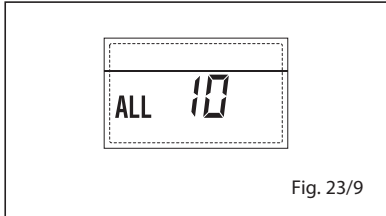

Fig. 23/9
- ACTIVATION OF THE "ALL 13" EXHAUST FUMES PROBE (fig. 23/10)